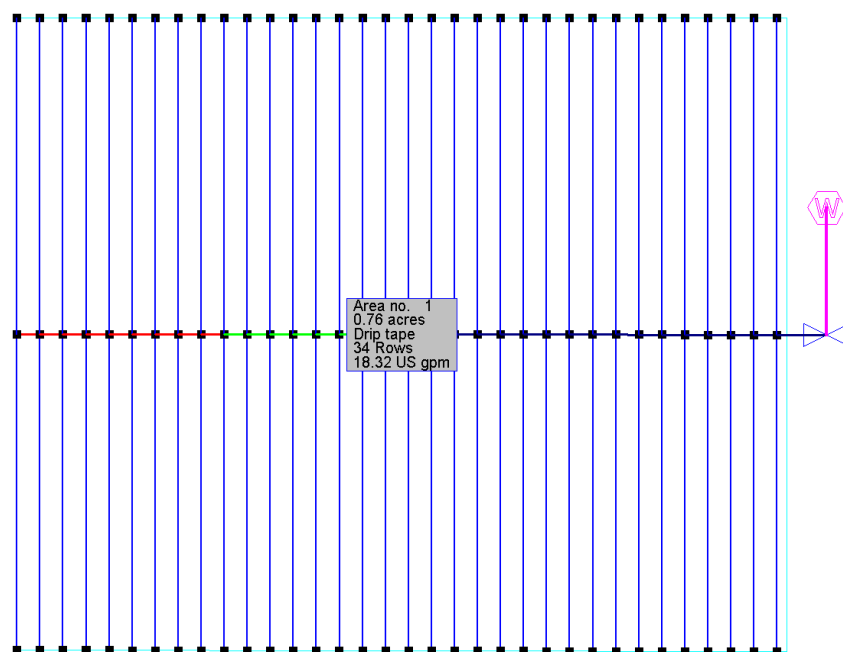

Figure 4-37
24. Now select **Modify/Select Object** and click on the label. Select **Modify/Move** and move the label to below the valve. See Figure 4-37.